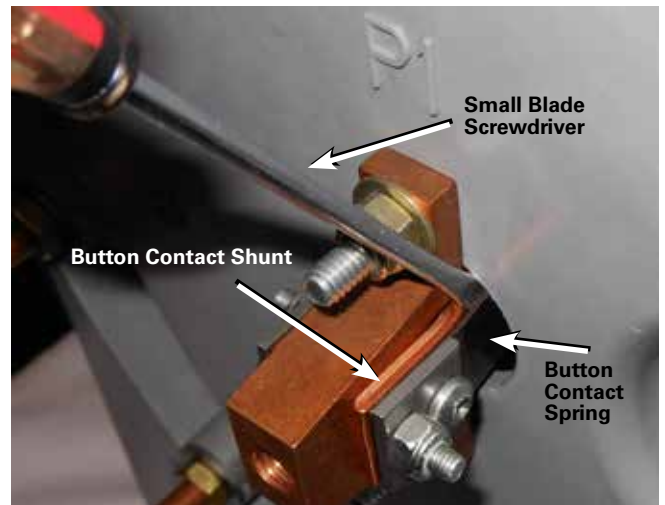

Figure 16. Installing rings into P1 and P2.
13. Position and center the movable contact panel assembly in the molded panel cavity with the contact rings facing the molded panel. Locate the movable contacts in the area of the removed stationary contact. Rotate the movable contact panel and slide the movable contacts onto the neutral stationary contact. Align the contact rings with the button contacts. Refer to Figure 16.
15. For the inner contact ring, from the back of the molded panel, insert a small blade screwdriver between the button contact spring and the button contact shunt on each side of the contact. Refer to Figure 16.